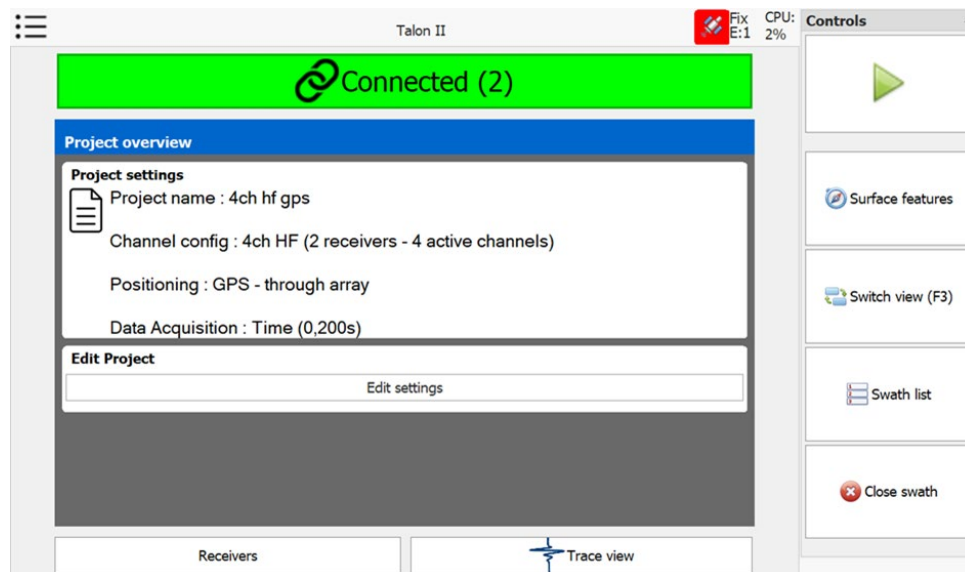

Figure 7, - Project overview.
7. After settings have been confirmed for the new project, you are presented with the project overview screen, see Figure 7, from where you can start data acquisition.